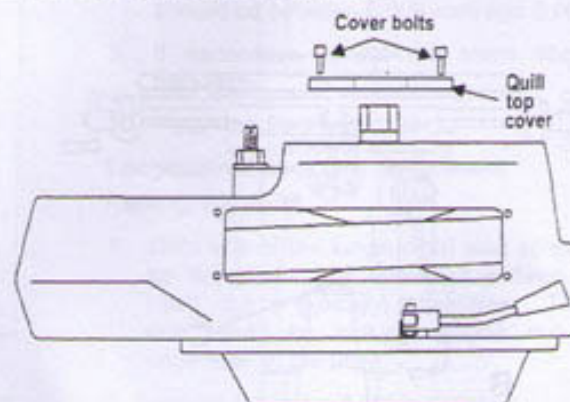

Figure 29
2. Remove *Quill Top Cover* (Figure 29).
4. Remove the vari-speed belt (ref. 4).
5. Install the vari-speed belt (ref. 4) on the driven hub (ref. 44).